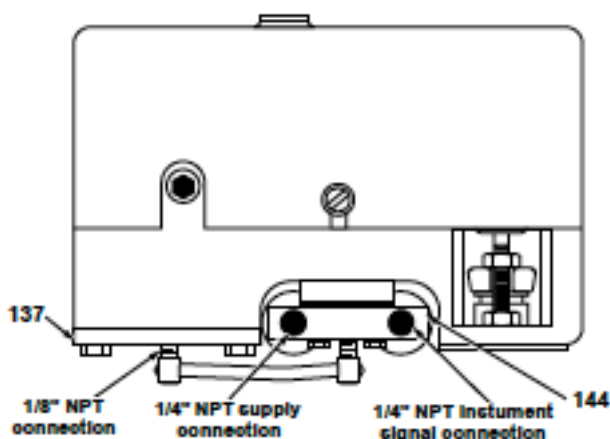

Figure 11 - Connections with 7700P positioner
- On-off valve: connect the air supply line directly to the 1/8" NPT threaded connection in diaphragm cover (137).
- Control valve with 7700P positioner (air signal): connect the supply and instrument signal lines to the appropriate connections on the manifold block (144) (figure 11). Use 4 x 6 mm (1/4" O.D.) tubing.